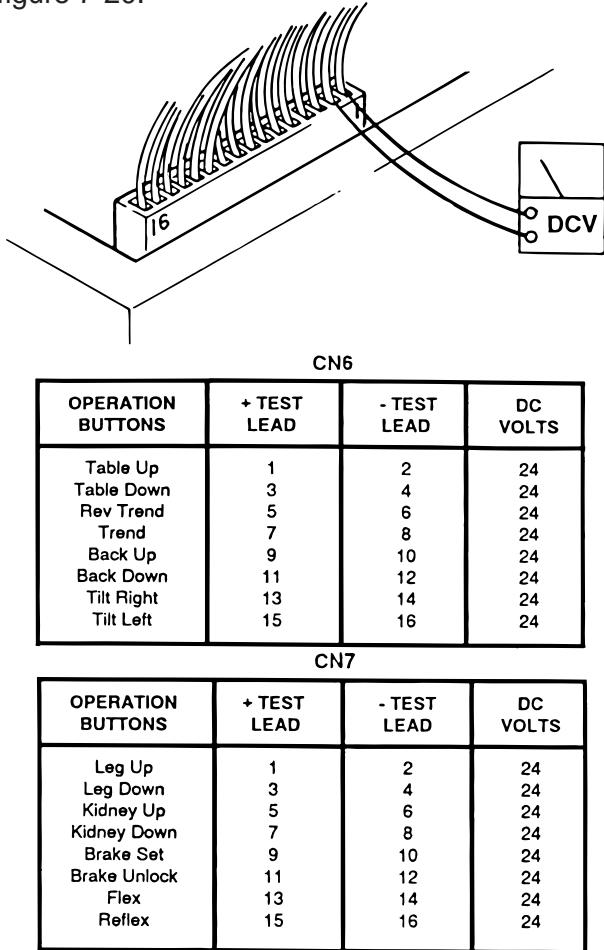

Figure 7-20. Connector CN6 or CN7
3. Activate each of the pendant control buttons and measure the output voltage for the corresponding connector pins with a DC voltmeter. See figure 7-20.